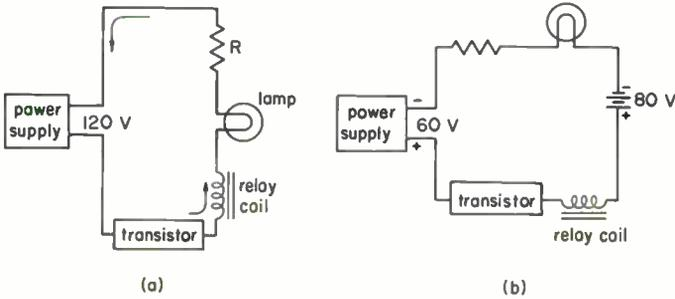

Fig. 44
7. The current direction in Fig. 44(a) is as shown. Mark on the drawing the polarity of the power supply and the polarity of each of the passive components. In Fig. 44(b), determine the current direction and mark it on the drawing. Also, mark the polarity of the voltage across each of the passive components.
8. Draw an equivalent circuit for Fig. 44(b) in which the voltage sources are replaced by an equivalent voltage source. Show current direction and all polarities, and show the equivalent voltage in the circuit where the power supply is now located.